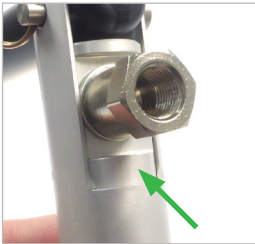

Figure 9
- ▶ Give a short spray with the target tube between the housing and the piston on the connector top (*Figure 9*).